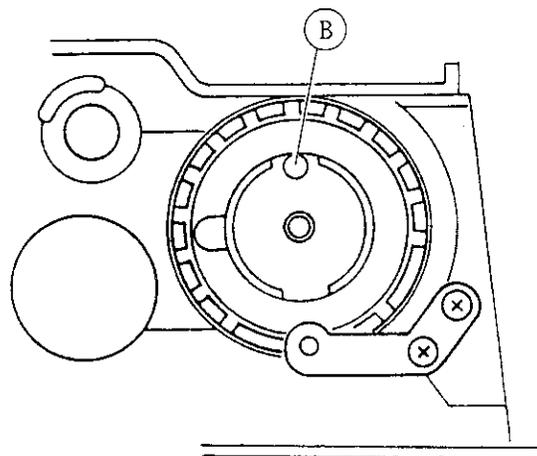

Fig. 3
2. When the (B) is located as shown in Fig. 3, mesh the TV-coupling gear with the TV-gear as the U-shape notch of the TV-coupling gear faces right in front.